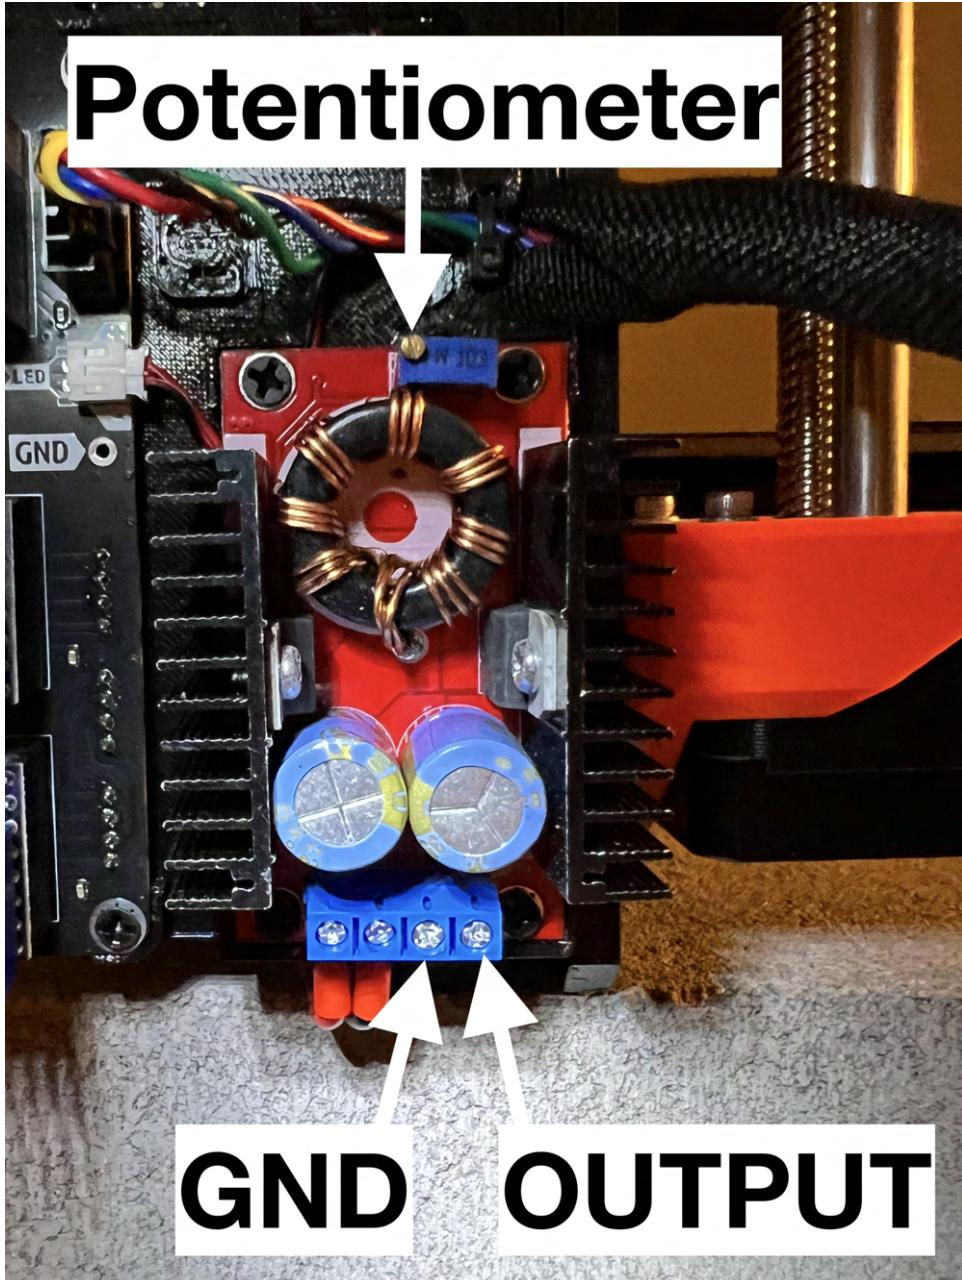

Figure 25: Potentiometer for adjusting the output voltage of the boost converter, and output pins marked.
- (b) While the printer is powered on, adjust the potentiometer illustrated in Figure 25, until the voltage measured between GND and OUTPUT measure around 24V. **NOTE:** Do not exceed 24V.